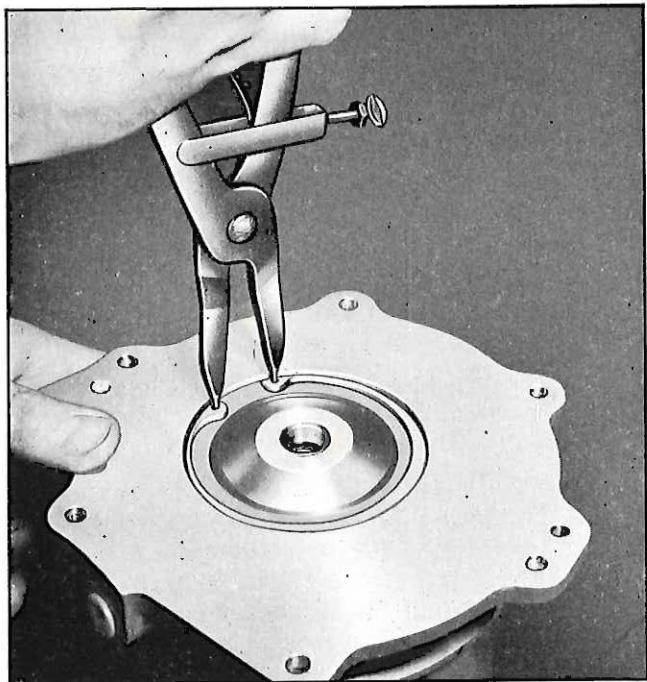

Fig. 24—Oil Seal Retainer Ring Removal
7. Remove the oil seal retaining ring from bearing housing with snap ring pliers (fig. 24).